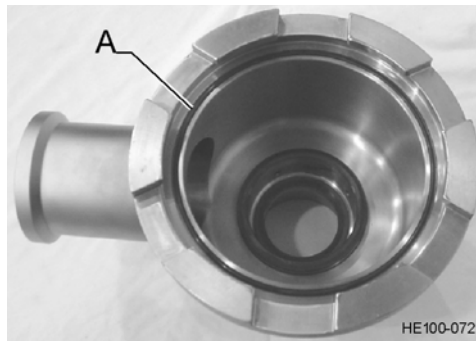

Figure 35 - Opposite Drive End Head O-ring
10. Make sure O-ring (See Figure 35, Item A) is installed in the opposite drive end head. Lubricate lightly